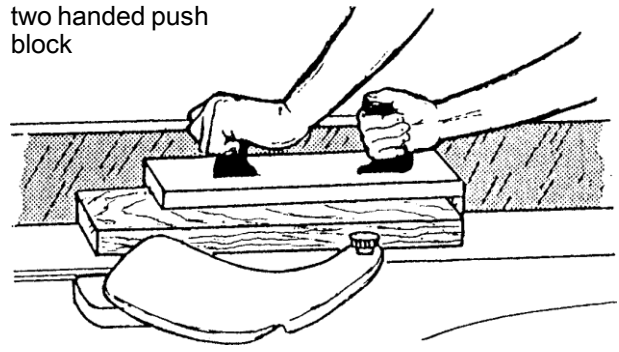
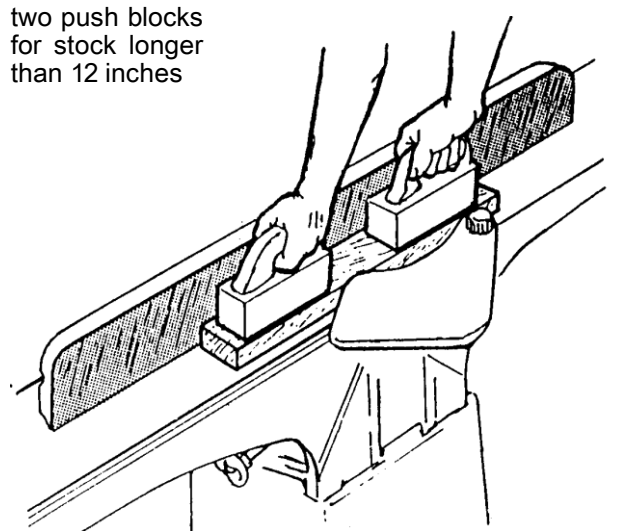
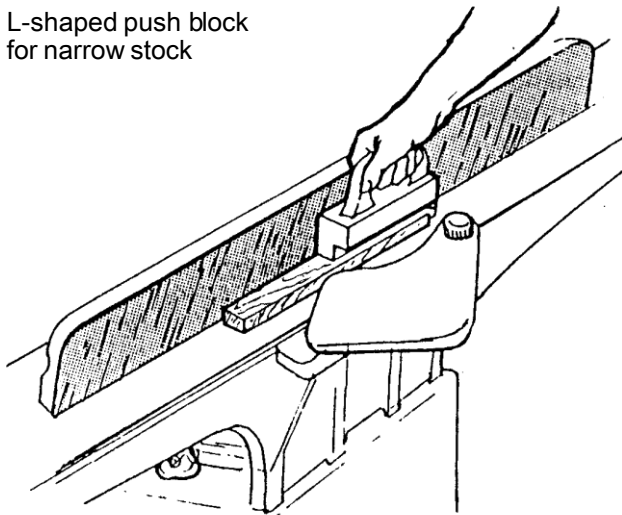
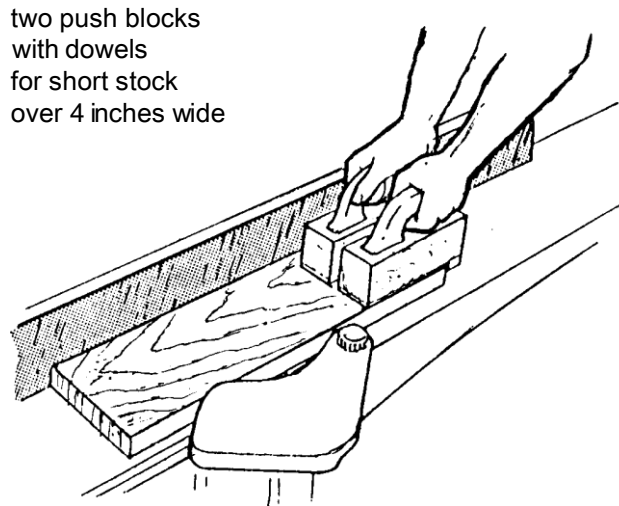

FIG. 18
FIG. 19
FIG. 20
FIG. 21
Never surface pieces shorter than 12 inches or thinner than 3/8 inch without the use of a special work holding fixture. Never surface pieces thinner than 3 inches without the use of a push block. On stock 8" to 12" long use a single two-handed push block (Fig. 18). On stock longer than 12 inches use two push blocks (Fig. 19). With narrow stock use the type push block shown in Fig. 20. When surfacing short stock over 4 inches wide, use two (2) push blocks to guide material over cutterhead (Fig. 21).